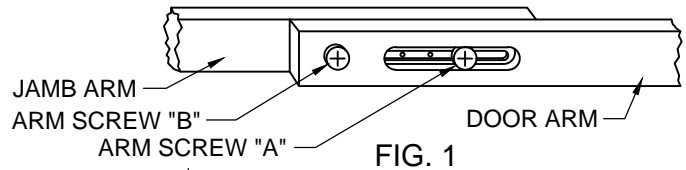

FIG. 1
1. LOOSEN "ARM SCREW A" IN SLOTTED SECTION. SEE FIG. 1. **DO NOT REMOVE.**
2. REMOVE "ARM SCREW B" ONLY. SEE FIG. 1.